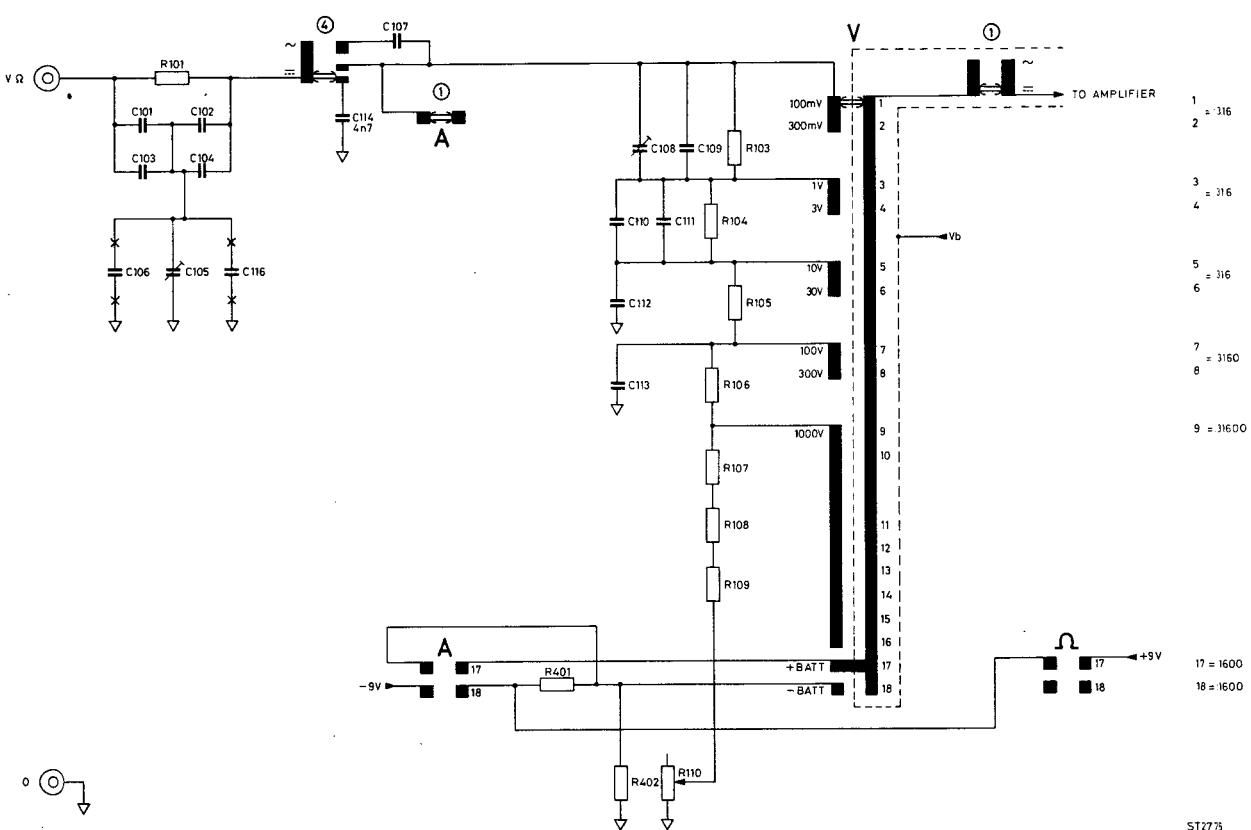

Fig. 9. V_{\equiv} , V_{\sim} , +BATT and -BATT attenuators
4.3.1. $V_{\text{---}}$, V_{\sim} , + BATT and - BATT attenuators (Fig. 9)